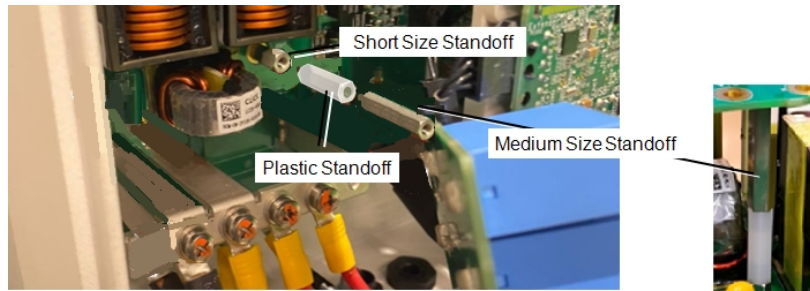

Figure 3: Installing the metal/plastic/metal standoff
4. Position and secure the short size metal standoff in the threaded hole on the power board (see *Figure 3*) with a torque of 1.2 N*m (10.6 lb*in).
5. Secure the plastic standoff on top of the short metal standoff (see *Figure 3*) with a torque of 0.1 N*m (0.9 lb*in).
6. Secure the medium size standoff on top of the plastic standoff (see *Figure 3*) with a torque of 0.1 N*m (0.9 lb*in).